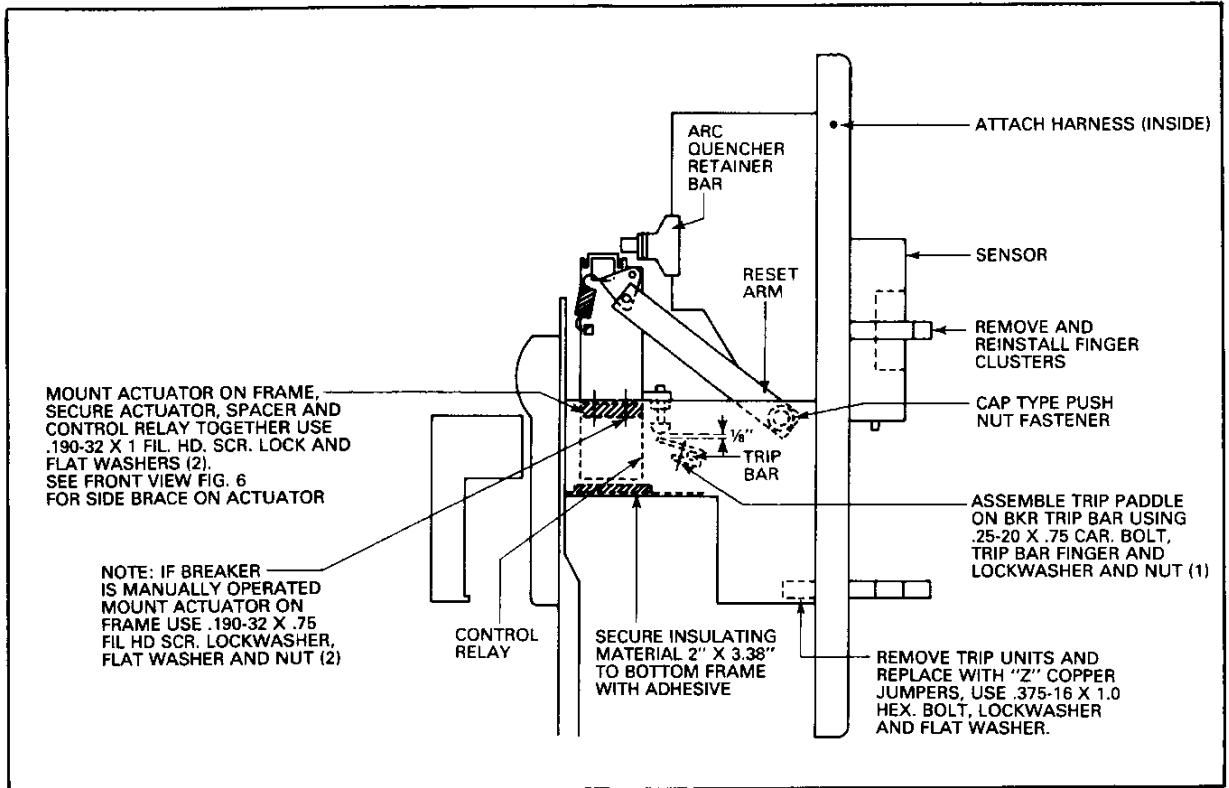

Fig. 5
- Assemble trip paddle on breaker trip bar using .25-20 x .75 carriage bolt, trip bar finger and elastic nut, do not tighten nut. Fig. 5.
- Position the actuator above the holes that held the control relay, slide the bottom of the reset arm on the .50 shaft on the right side of breaker, and attach the cap type push nut fastener, Fig. 5.
- Place the insulating material 2" x 3.38" under the terminals of the control relay. Secure with an adhesive, Figs. 5 and 6.
- Position the 1/2" x 1 1/8" spacer beneath the holes under the actuator. Slide the control relay over so that the holes match those of the spacer. Fasten the actuator, spacer and control relay with the .190-32 x 1.0 fil. hd. scr. and washers, Figs. 5 and 6.
If the breaker is to be manually operated Steps 4 and 5 are not required. Secure actuator to frame with .190-32 x 1.0 fil. hd. scr. washer, lockwasher and nuts, see Fig. 5.
- Move the assembled trip paddle to line up directly under the trip adjustment screw on the actuator. Spacing between the trip paddle and trip adjustment screw is approximately 1/8" with breaker in closed position, Fig. 5.